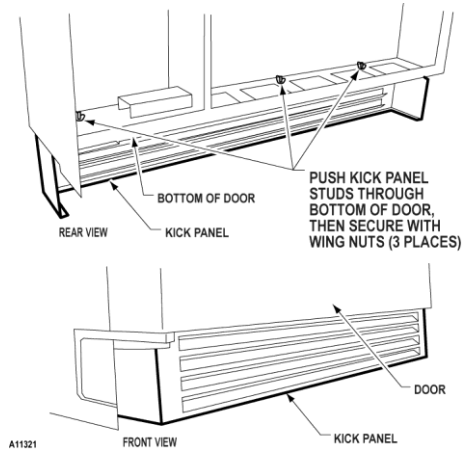

Figure 2. Install Kick Panel
4. Position Kick Panel under the main door with louvers facing front. See **Figure 2**.
6. Lock the Kick Panel into position by re-installing the three (3) wing nuts as shown on **Figure 2**.